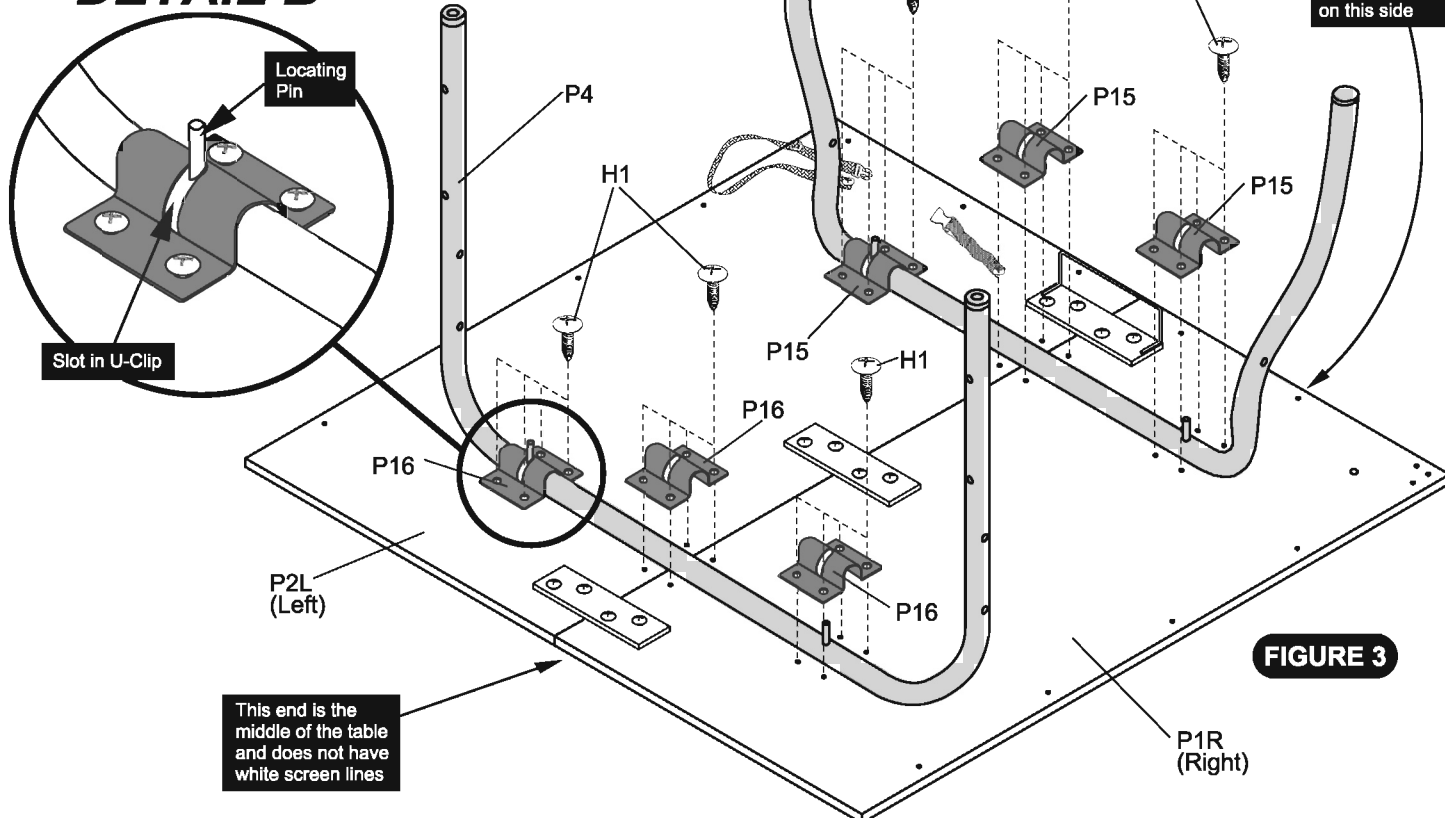

FIGURE 3
WHEN ASSEMBLING TABLE, IT IS EXTREMELY IMPORTANT THAT THE P15 LARGE U-CLIPS AND P16 SMALL U-CLIPS BE TURNED AS SHOWN IN FIGURE 3 & DETAIL A. IF U-CLIPS ARE TURNED INCORRECTLY, YOU WILL DO IRREPARABLE DAMAGE TO YOUR TABLE WHEN YOU ATTEMPT TO OPEN IT TO THE PLAYING POSITION.
1. BE SURE THAT SLOT IN THE THREE P15 LARGE U-CLIPS AND P16 SMALL U-CLIPS ALL FACE THE SAME DIRECTION (TOWARD THE MIDDLE OF THE TABLE) AS SHOWN IN FIGURE 3 & DETAIL A.